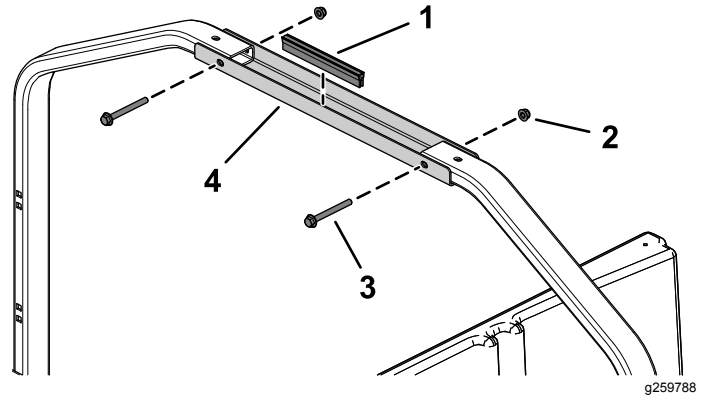

Figure 13
- Secure the tube-mounting bracket to the rear mounting tubes using 2 flange-head bolts (5/16 x 3 inches) and 2 flange nuts (5/16 inch) as shown in Figure 13.
- Install the trim seal onto the tube-mounting bracket (Figure 13).